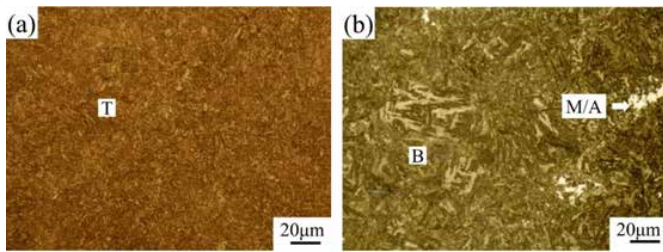

Fig. 3 Microstructure of 51CrV4 Steel by Heat Treatment : (a) Quenching and Tempering Process ; (b) Isothermal Quenching Process
**Figure 3(a)** shows the metallographic structure of 51CrV4 after quenching and tempering heat treatment, which is a single tempered troostite. From the tempered troostite we can see that, after tempering the structure is obviously refined, uniform and small, and the slat feature is also obvious. When martensite quenched at high temperatures is tempered at medium temperatures, its martensitic characteristics still cannot be eliminated. Tempered troostite, as a result of tempering, has a similar structure to slat martensite.
**Figure 3(b)** shows the metallographic structure of 51CrV4 after isothermal quenching heat treatment, which is mainly a complex phase structure composed of bainite, martensite and residual austenite. After the isothermal process maintains a warm temperature for a sufficiently long period of time in the bainite